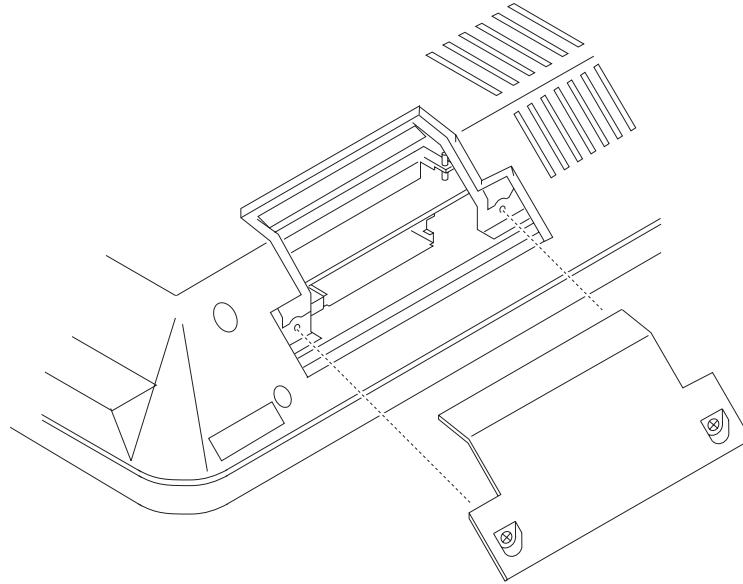

Figure 9. Installing additional memory
2. See Figure 9. Remove the two captured screws on each side of the memory door and pull to remove.